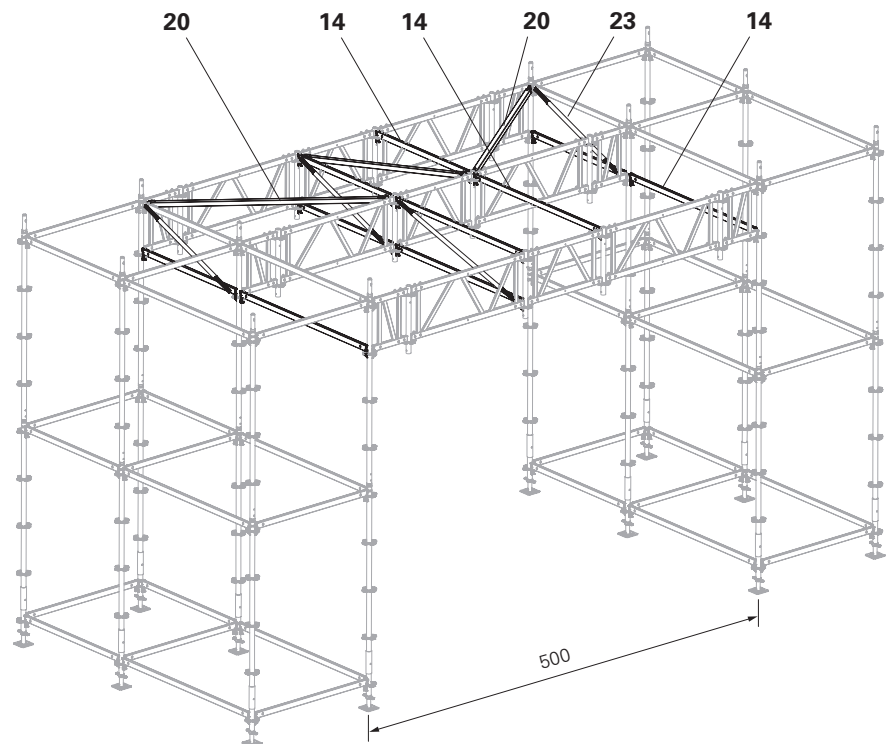

Fig. A13.05
1. Connect the formwork girders with Horizontal Ledgers UH Plus (14). Secure the wedges.
2. Install Ledger Braces UBL (23).
3. Install Horizontal Braces UBH Flex (20).
- (Fig. A13.05 + A13.05a)